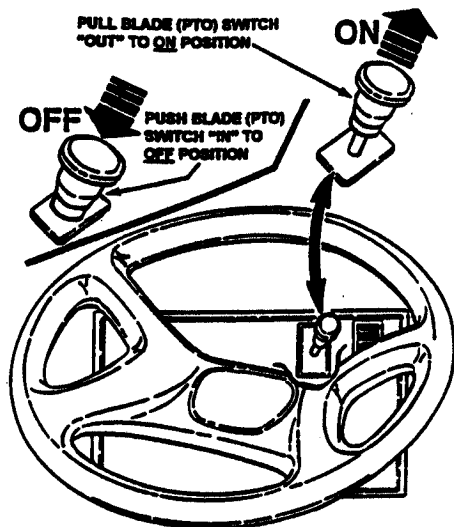

FIGURE 11
2. Pull the BLADE (PTO) Switch "OUT" to the ON position to start the BLADES. See Figure 11.
3. Push the BLADE (PTO) Switch "IN" to the OFF position to stop the BLADES. See Figure 11.